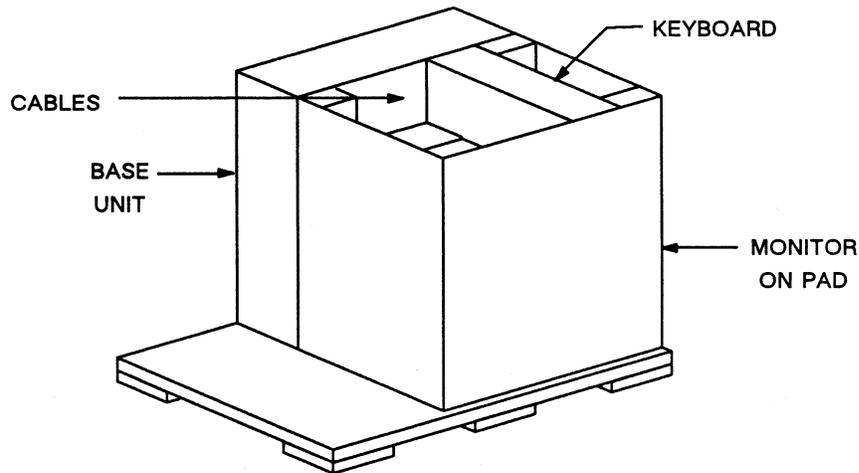

Figure 1-3. Shipping Configuration for Model 32CV/32MV CADDStations
5. Remove the box containing the base unit. See Figure 1-3.
Figure 1-3 shows the shipping configuration for Model 32C-V/32M-V CADDStations.